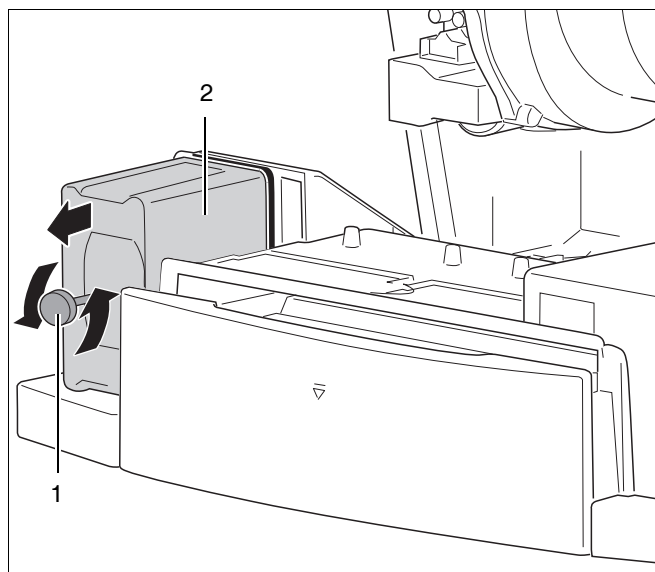

fig. 9 Dismantling the UBA 3
- Loosen the fastening screw of the UBA 3 (see fig. 9, pos. 1).
- Remove the UBA 3 by pulling it forward as indicated by the arrow (see fig. 9, pos. 2).